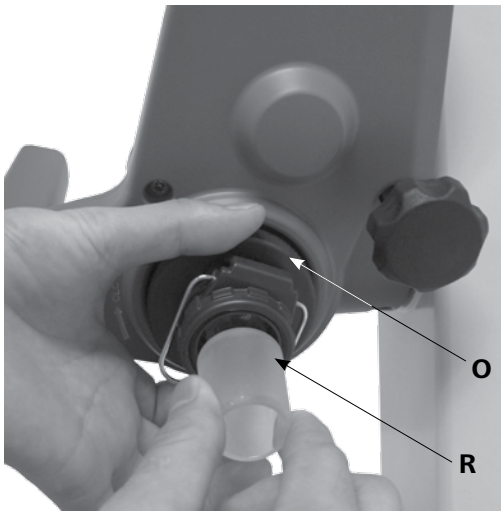

Fig. 14b
- Then, lock the locking device (**O**) by turning it clockwise by 60°. (Fig. 14b)